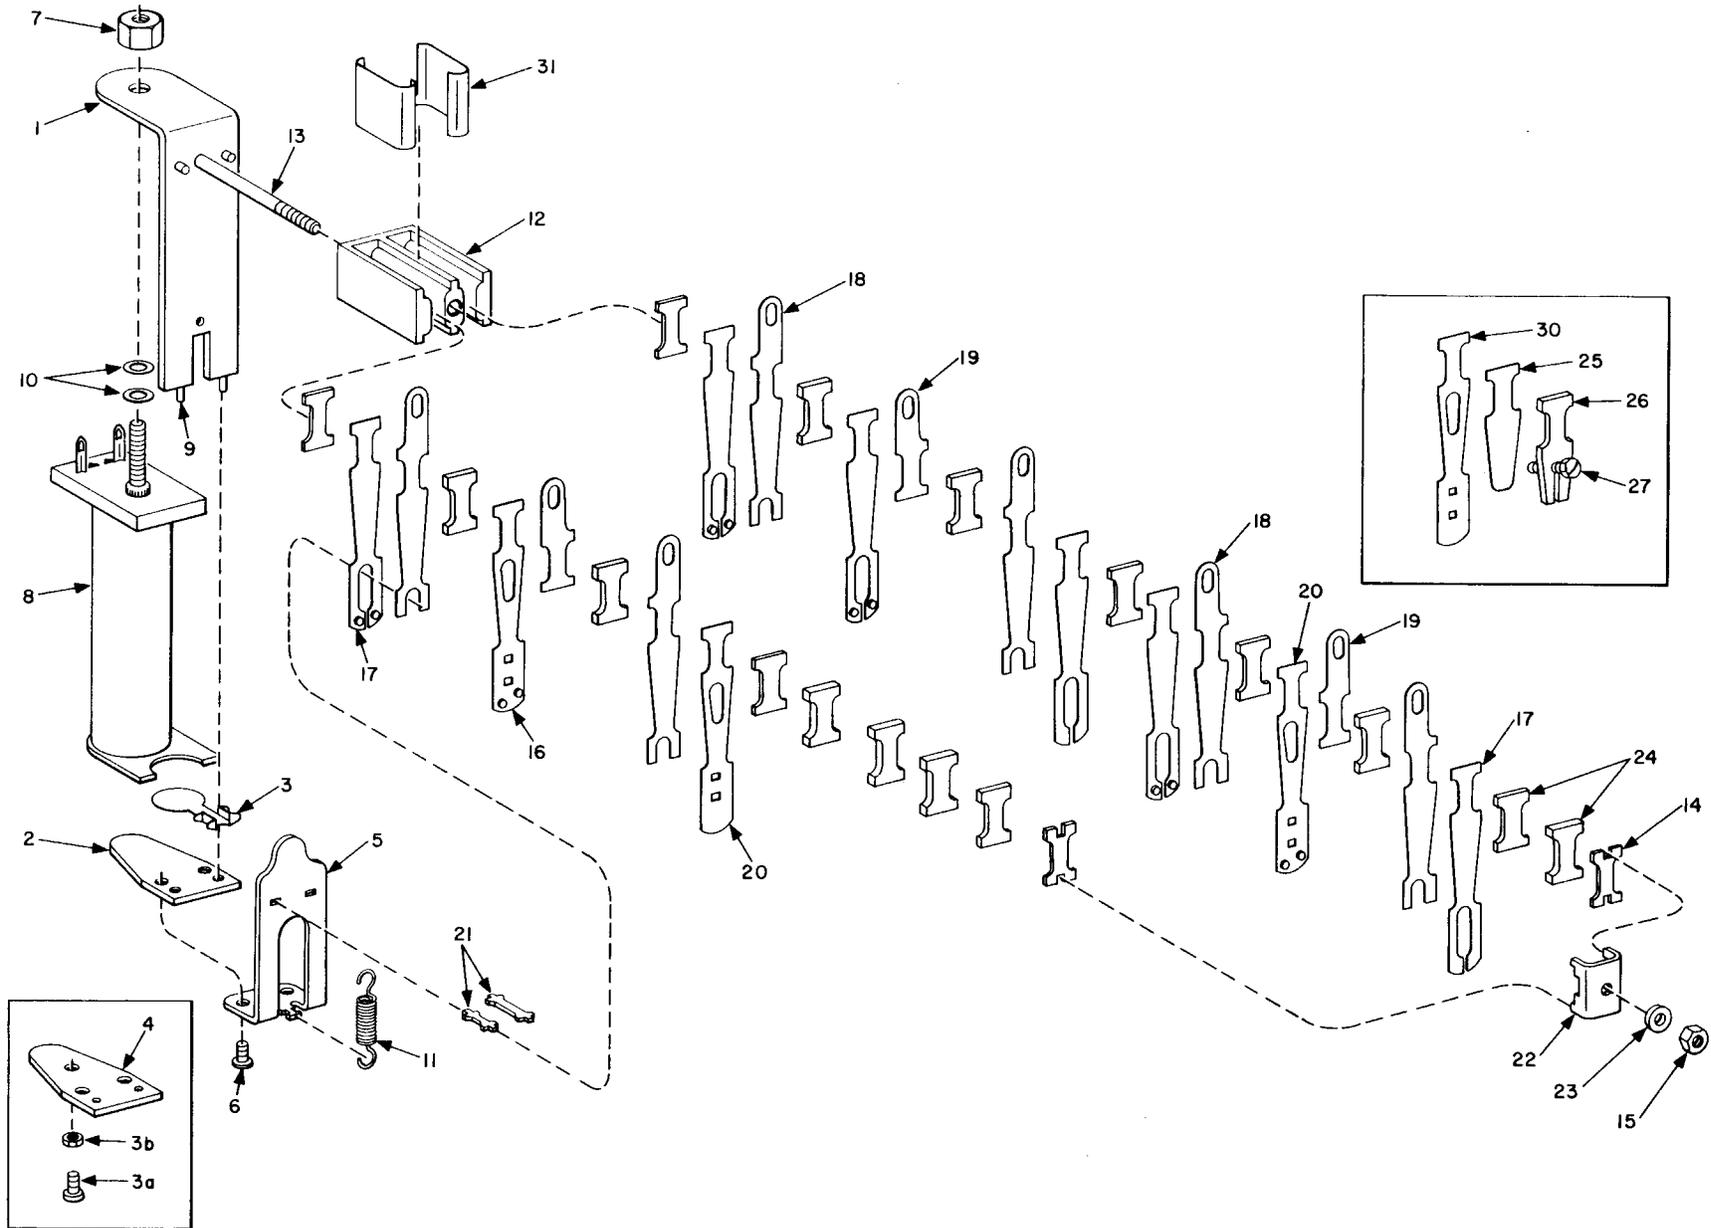

Fig. 1 — Gfeller Relay
**2.01** Figures 1 and 2 illustrate the various parts of the relay and switch, respectively. Each part is labeled with a number for cross reference to the parts list (Table A or B).
**2.02** Tables A and B provide the parts lists for the relays and switches, respectively, and give the number relative to Figure 1 or 2, name of part, part number, and a view of each part.